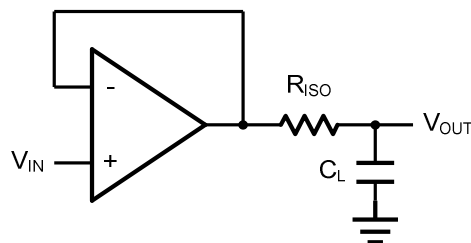
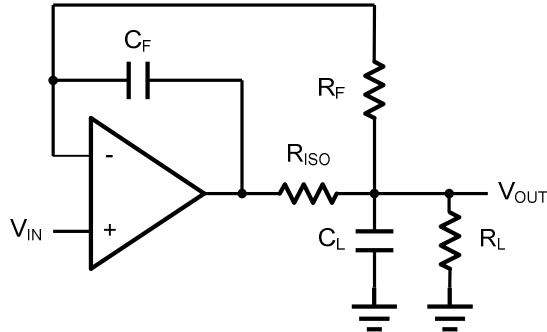

Figure 2. Indirectly Driving a Capacitive Load Using Isolation Resistor
Figure 3. Indirectly Driving a Capacitive Load with DC Accuracy
The HGV72X family is optimized for bandwidth and speed, not for driving capacitive loads. Output capacitance will create a pole in the amplifier's feedback path, leading to excessive peaking and potential oscillation. If dealing with load capacitance is a requirement of the application, the two strategies to consider are (1) using a small resistor in series with the amplifier's output and the load capacitance and (2) reducing the bandwidth of the amplifier's feedback loop by increasing the overall noise gain. Figure 2. shows a unity gain follower using the series resistor strategy. The resistor isolates the output from the capacitance and, more importantly, creates a zero in the feedback path that compensates for the pole created by the output capacitance.
The circuit in Figure 3 is an improvement to the one in Figure 2. R_{F} provides the DC accuracy by feed-forward the V_{IN} to R_{L} . C_{F}